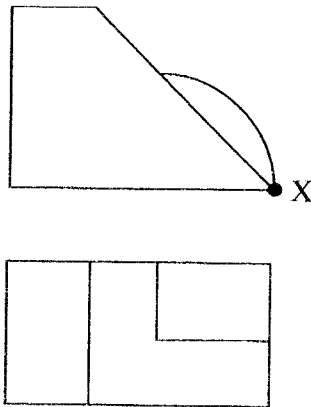

Figure 5
9. **Figure 5** shows two views of a machined bracket drawn in first angle project.